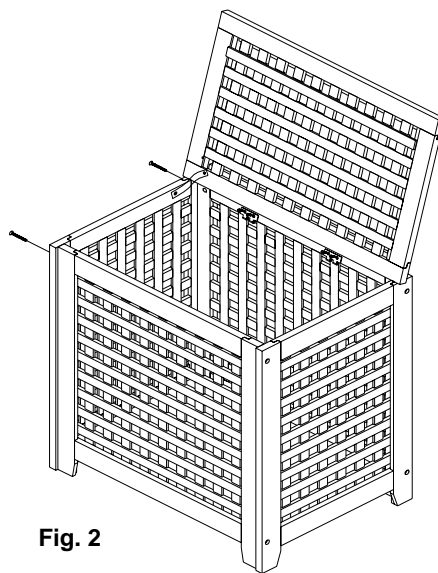

Fig. 2
2. Attach left side(D) to the unit with assembly screw (H) , Screw the back panel onto the lid (A) with screws (I) (see fig 2)